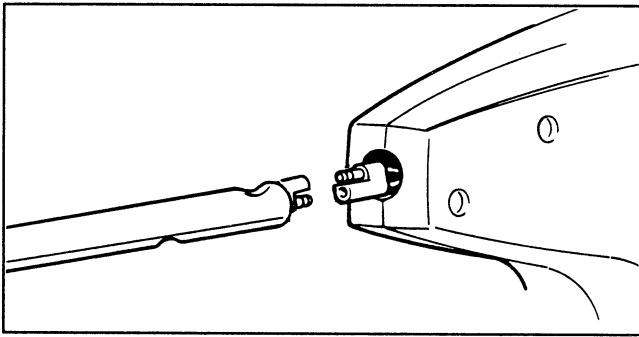

Figure 1
1. Connect plug in battery housing with wiring connector plug extending out of tube (Fig. 1).